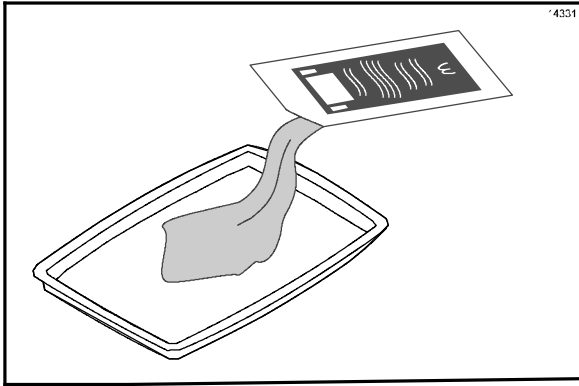

Figure 21
12. Open one packet of **McD Hi-Temp Grill Cleaner (HTGC)**. Empty the contents into an entrée base or stainless steel pan. (See Figure 21.)